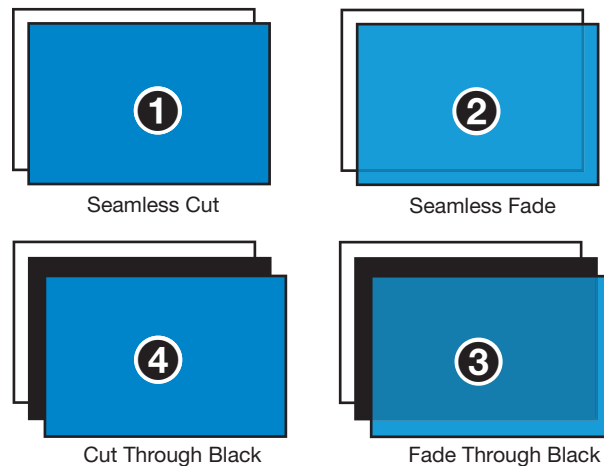

Figure 27. Transition Effects
- **Input Switch Effect** — Enables you to select the transition effect that is shown on the display while the scaler is switching inputs (see the examples in figure 27). Press the ▲ or ▼ button to select from the following available effects:
- **Seamless Fade** (default) — Displays a final frozen frame of the previous input while the newly selected input fades in (see figure 27, ❷).
- **Fade thru Black** — The current input fades to black before the newly selected input fades in (❸).
- **Cut thru Black** — The current input instantly cuts to black, then immediately cuts to the newly selected input with no fading in or out (❹).
- **Seamless Cut** — The last frame of video freezes on the screen, then cuts to the newly selected input (❶).